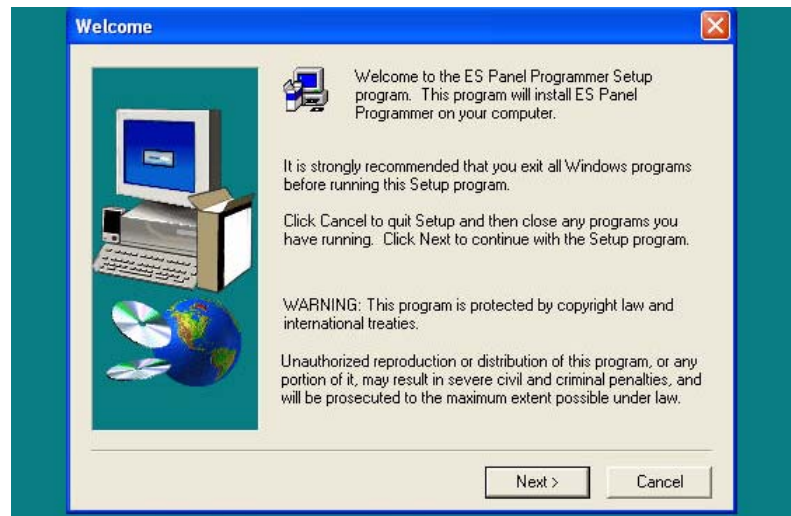

Figure 1-2. Initial Installation Screen
- **Minor Sub Tabs** - Some of the major tabs, such as the Panel Tab shown in Figure 1-2, have a set of minor tabs associated with them. Minor tabs are used to break down the major tab into specific programming areas, and only appear when the associated major tab is selected.